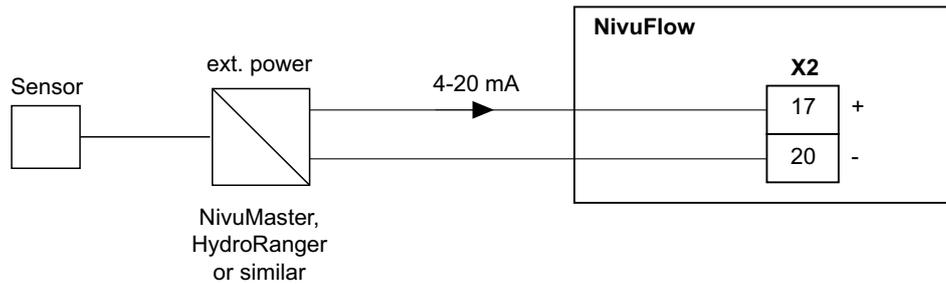

Fig. 17-7 Connecting an external transmitter
- ➡ If the mA signal of the level measurement is provided from an external transmitter (e. g. NivuMaster), the transmitter must be connected according to Fig. 17-7.